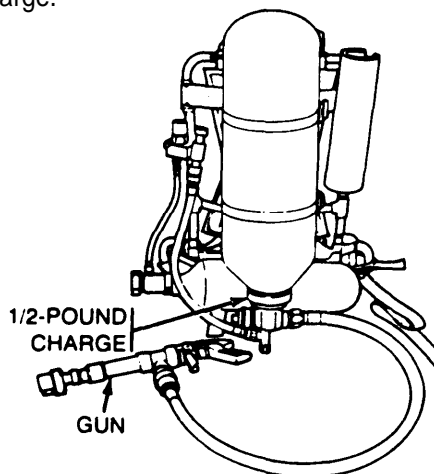

Figure 3-3. Explosive Charge Location for M33A1 Disperser.
- (1) Fasten 1/2-pound explosive charge between compressed gas cylinders (fig. 3-3) (agent container and air cylinder).
- (2) Tape, tie, or wire disperser gun next to charge.